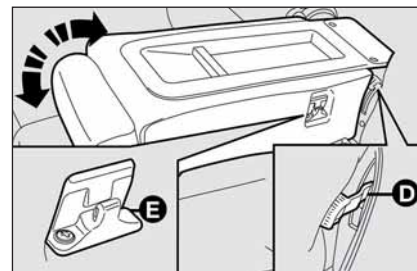

fig. 47
- ☐ operate lever **D**-fig. 47 (one per side)
To bring the central back rest back to vertical position: use again lever **D**-fig. 47 (one per side) and set it in line with rear side seat backs, until the securing clip **E** locks into place.